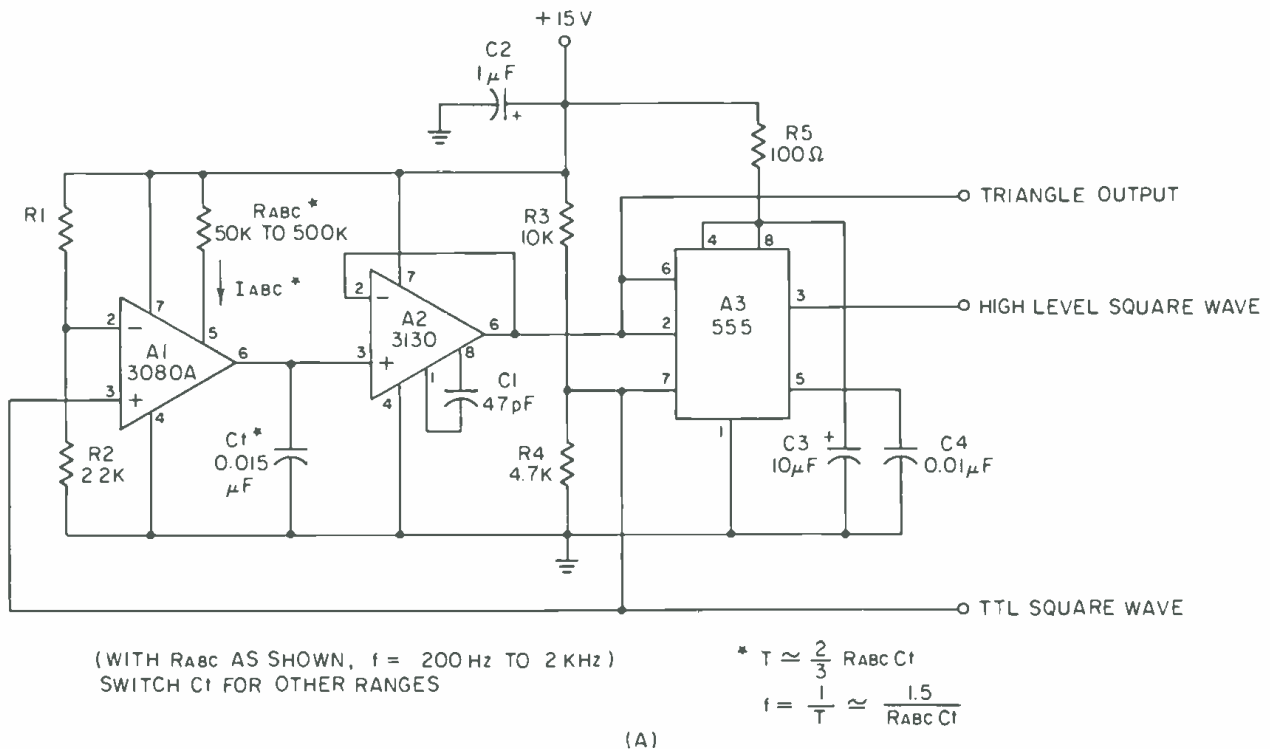

Figure 7(A). Wide range single supply function generator. a: Basic generator.
The example shown in FIGURE 7(A) is frequency programmed via R_{ABC} , which can be either switch-selected
FIGURE 7(B) shows an option, which when added to the basic circuit, converts it into a linear voltage-controlled version. By applying a control voltage E_c to R_{ABC} , the frequency can be varied linearly via a pot across the +15 V line. Thus the circuit is a voltage-controlled oscillator, or vco.